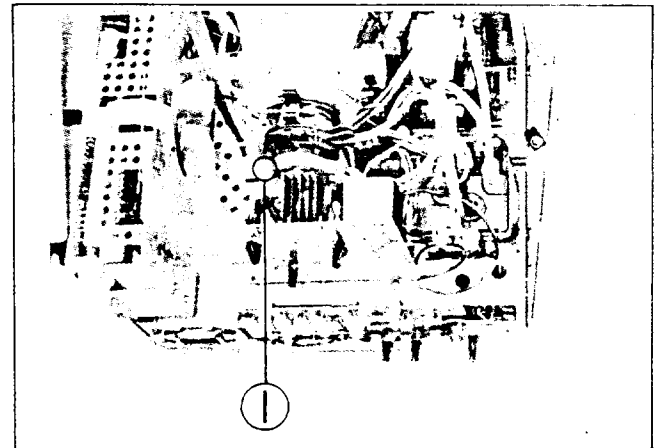

Fig. 6
5. Remove the CRT socket PB after loosening the screw marked (I) shown in Fig. 6. Then remove the connectors, and wire clamps (if necessary).